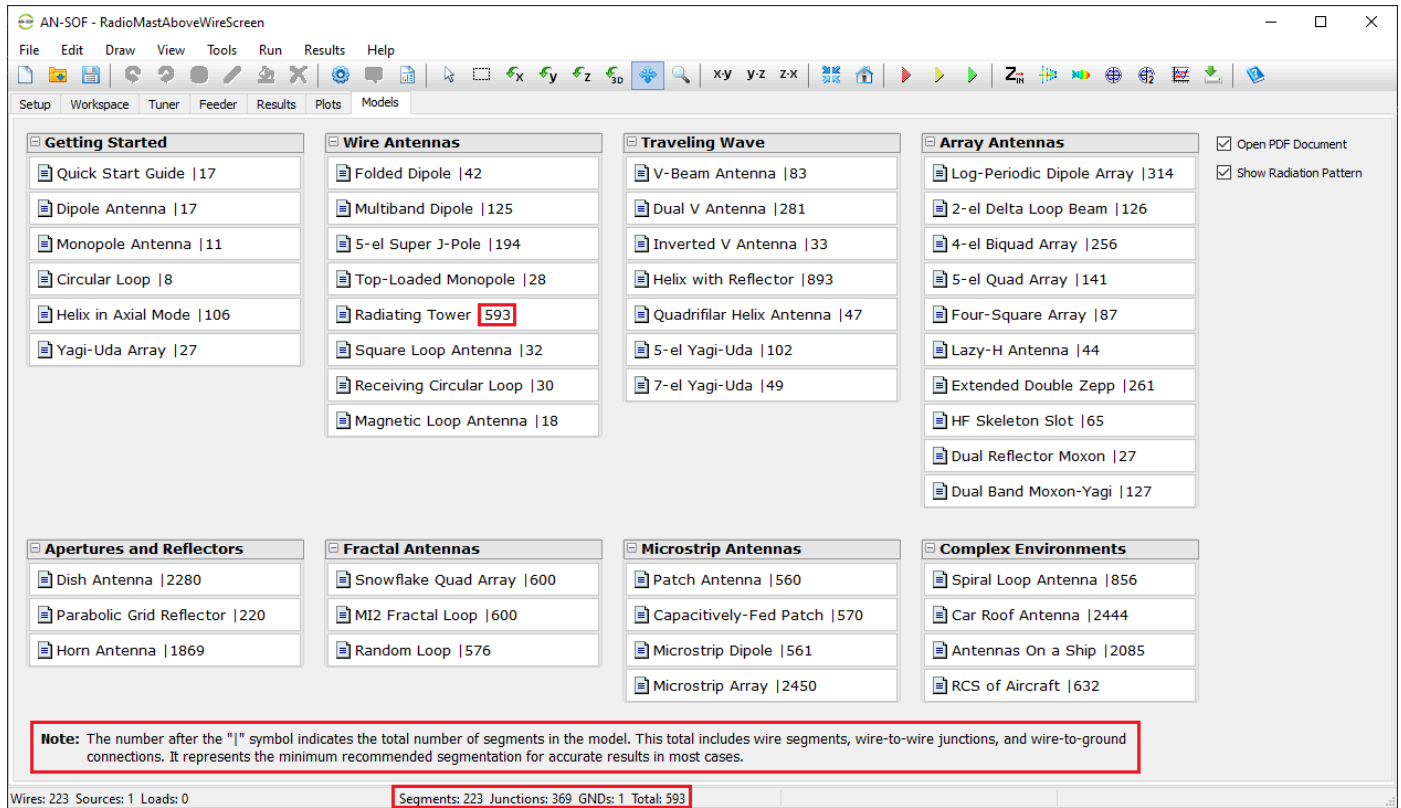

Fig. 1: The Models tab in the AN-SOF interface.
6. In the cells corresponding to **Att. 1**, **Freq. 1**, **Att. 2**, and **Freq. 2**, enter the values from the attenuation table so that **the simulation frequency range is included between Freq. 1 and Freq. 2**. For example, if you are running a calculation between 150 and 170 MHz, enter Att. 1 = 1.9 dB/100 ft, Freq. 1 = 100 MHz, Att. 2 = 2.8 dB/100 ft, Freq. 2 = 200 MHz, as indicated in the table for the Belden 8237 cable, Fig. 1.
Fig. 1: Entering the values of nominal characteristic impedance, velocity factor, and attenuation for a Belden 8237 cable, type RG-8/U, when the frequency sweep of the simulation is within the range of 100 to 200 MHz.
The **Models** tab in the AN-SOF interface provides a categorized library of pre-built antenna projects. These serve as excellent starting points for learning how to use the software effectively (**Fig. 1**).